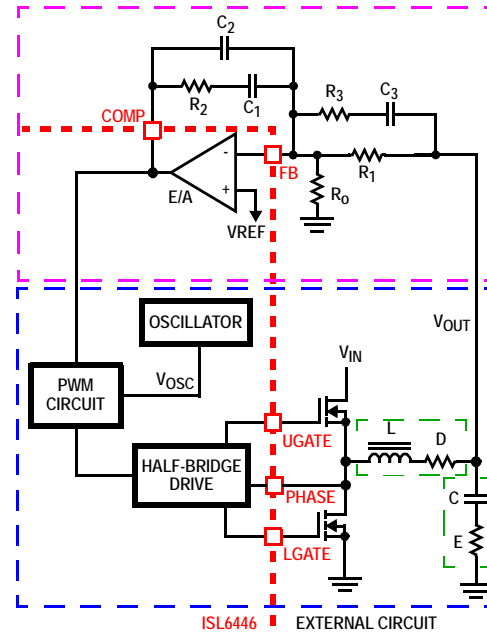

FIGURE 26. VOLTAGE-MODE BUCK CONVERTER COMPENSATION DESIGN
Figure 26 highlights the voltage-mode control loop for a synchronous-rectified buck converter, applicable to the ISL6446 circuit. The output voltage ( $V_{OUT}$ ) is regulated to the reference voltage,  $V_{REF}$ . The error amplifier output (COMP pin voltage) is compared with the oscillator (OSC) modified sawtooth wave to provide a pulse-width modulated wave with an amplitude of  $V_{IN}$  at the PHASE node. The PWM wave is smoothed by the output filter (L and C). The output filter capacitor bank’s equivalent series resistance is represented by the series resistor E.
The compensation network consists of the error amplifier (internal to the ISL6446) and the external  $R_1$  through  $R_3$ ,  $C_1$  through  $C_3$  components. The goal of the compensation network is to provide a closed loop transfer function with high OdB crossing frequency ( $F_0$ ; typically 0.1 to 0.3 of  $f_{SW}$ ) and adequate phase margin (better than  $45^\circ$ ). Phase margin is the difference between the closed loop phase at  $F_{0dB}$  and  $180^\circ$ . The equations that follow relate the compensation network's poles, zeros and gain to the components ( $R_1$ ,  $R_2$ ,  $R_3$ ,  $C_1$ ,  $C_2$ , and  $C_3$ ) in Figure 26. Use the following guidelines for locating the poles and zeros of the compensation network:
1. Select a value for  $R_1$  (1k $\Omega$  to 5k $\Omega$ , typically). Calculate the value for  $R_2$  for desired converter bandwidth ( $F_0$ ). If setting the output voltage via an offset resistor connected to the FB pin,  $R_0$  in Figure 26, the design procedure can be followed as presented in Equation 13.